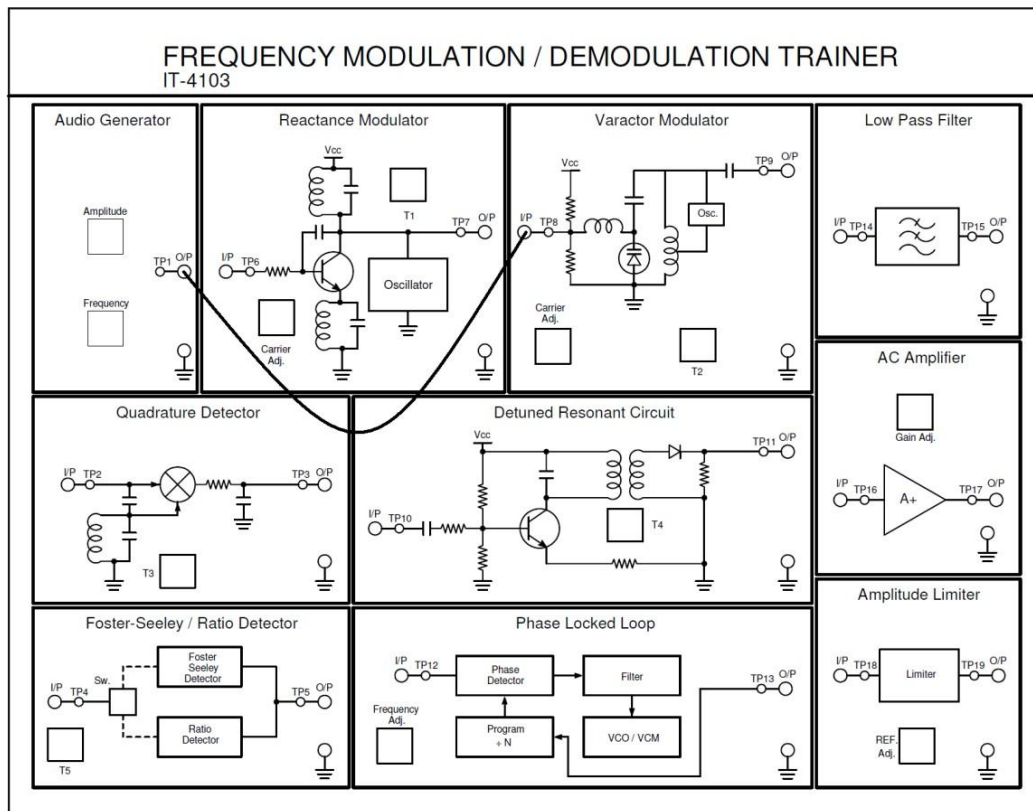

Fig. 7: Experimental Setup using Varactor modulator
- Make the connections on Module IT-4103 as shown in Fig. 7 above.